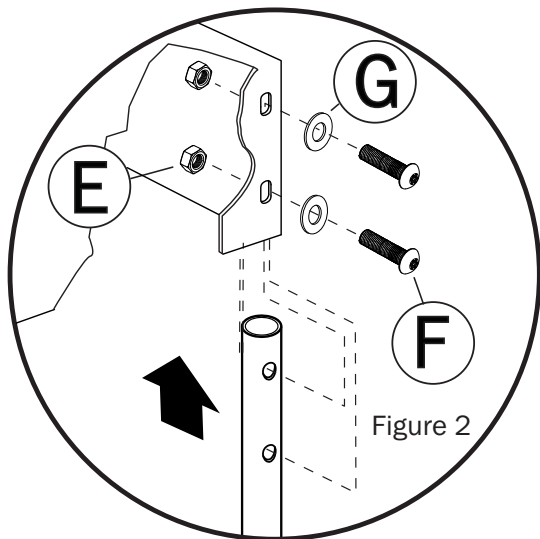

Figure 2
5. Insert (2) Bolts(D) and (2) Washers(E) into underside of Deck Support(B), through bracket on underside of ADA Deck(A) and secure with (2) Flat Washers(E) and (2) Lock Nuts(F). See *Figure 2*.
5. Insert (2) Bolts(E) and (2) Flat Washers (F) into ADA Handhold(A), into holes in ADA Deck and secure with (2) Flat Washers(F) and (2) Lock Nuts(D). See *Figure 2*.
3. Align slots on side of ADA Step(A) with holes in Extension Post(B) and insert (2)Bolts(F) and (2)Flat Washers(G) through holes in ADA Step(A), through Footer Post(B) and secure with Lock Nut(E). See Figure 2.
**NOTE: Use (2) outside inserts only.**
3. With arm of Panel Clamp(B) pointing inward and flat side of arm facing toward Barrier Panel(A), align holes in Panel Clamp(B) with holes in Barrier Panel(A). Insert Bolt(I) into Panel Clamp(B), through Barrier Panel(A) and secure with Flat Washer(J) and Lock Nut(H). See Figure 2.
3. With arm of Panel Clamp(B) pointing inward and flat side of arm facing toward Game Panel(A), align holes in Panel Clamp(B) with holes in Game Panel(A). Insert Bolt(I) into Panel Clamp(B), through Game Panel(A) and secure with Flat Washer(J) and Lock Nut(H). See Figure 2.